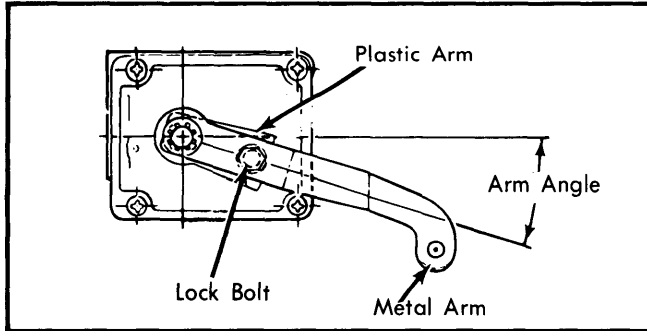

Fig. 3 Height Sensor Adjustment
1) Attach link to arm and loosen lock nut. See Fig. 3.